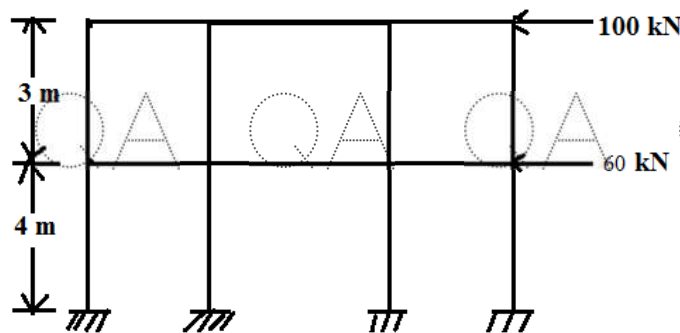

Figure 4
6. Analyse the frame shown in figure 4, using portal method. Also draw the B. M diagram. Assume the geometrical and material properties are the same for the elements of the frame. [10]